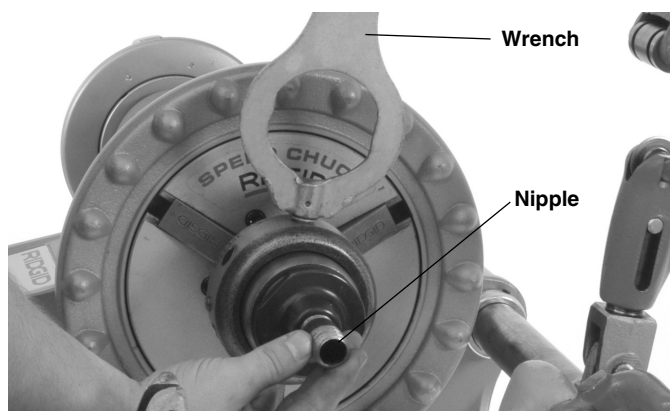

Figure 4 – Removing Nipple
12. Insert the wrench pin into one of the holes on body of the nipple chuck. Turn the wrench to release the finished nipple and unscrew from the adapter. *See Figure 4.* Remove wrench.